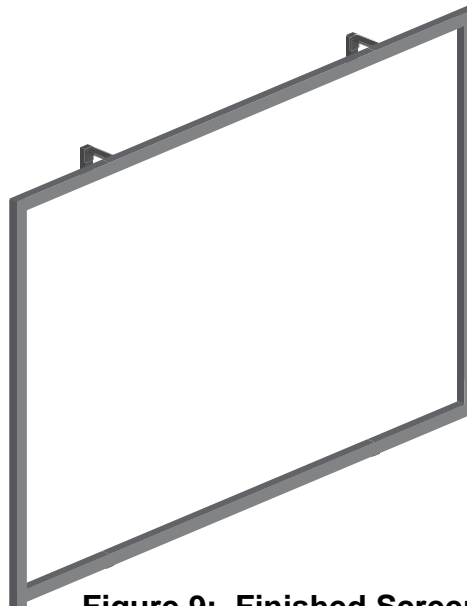

Figure 9: Finished Screen Attached to Wall Boards
9. Attach the frame/screen assembly to the previously mounted wall boards on the wall using the 3/4" hex head bolts (see Figure 9).